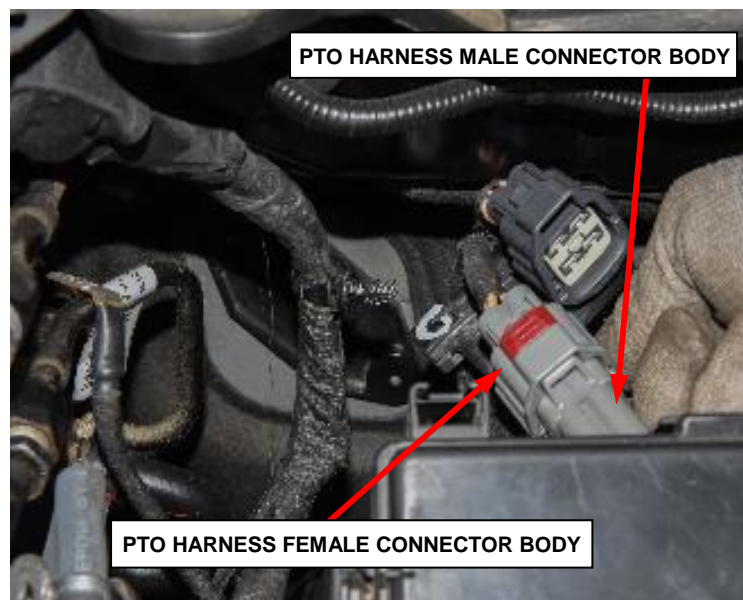

Figure 13 – PTO Harness Connector Bodies
14. Remove and save the male PTO harness connector body from the PTO harness (Figure 13).